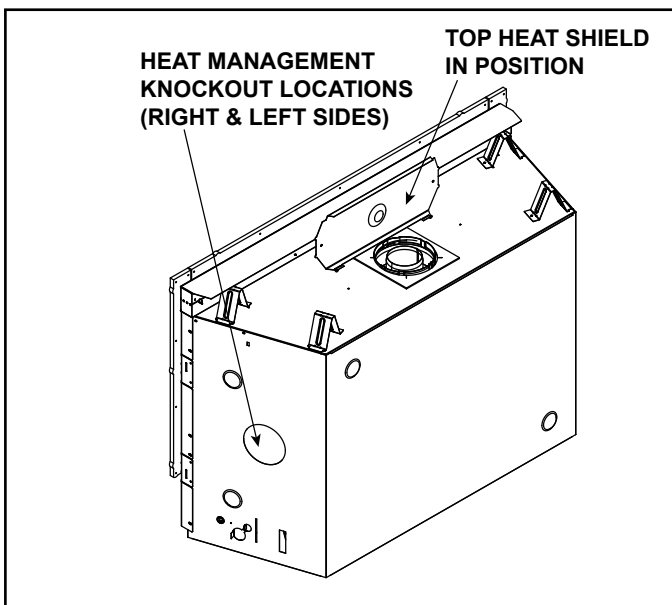

Figure 6.2 RAVE4013-IFT - Top Heat Shield in Position
2. Fold up top heat shield to 90 degrees as shown in Figure 6.2.
- Locate the heat management ports on the left and right sides of the appliance. Either one or two Heat-Zone®-Gas Kits may be installed. See Figure 6.2. Remove the knockouts from the appliance with a tin snips.